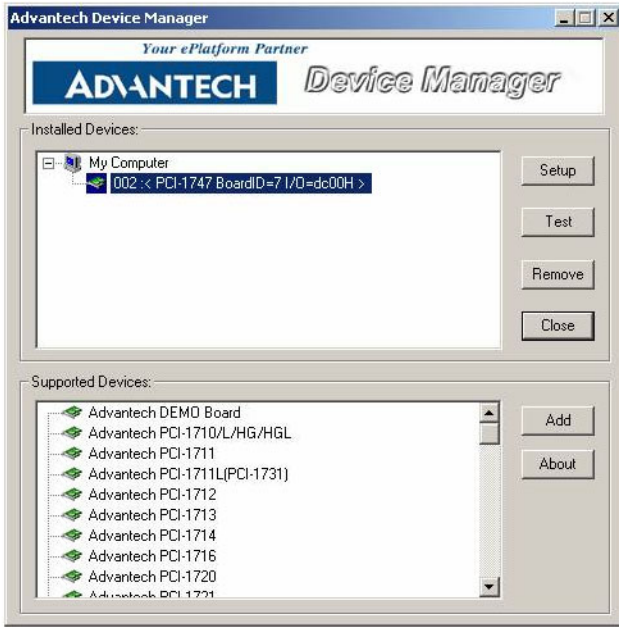

Figure 2.4: Device Manager dialog box
Step 3: The Installed Devices box will list the device(s) found on our system, such as the one in Figure 2.4.